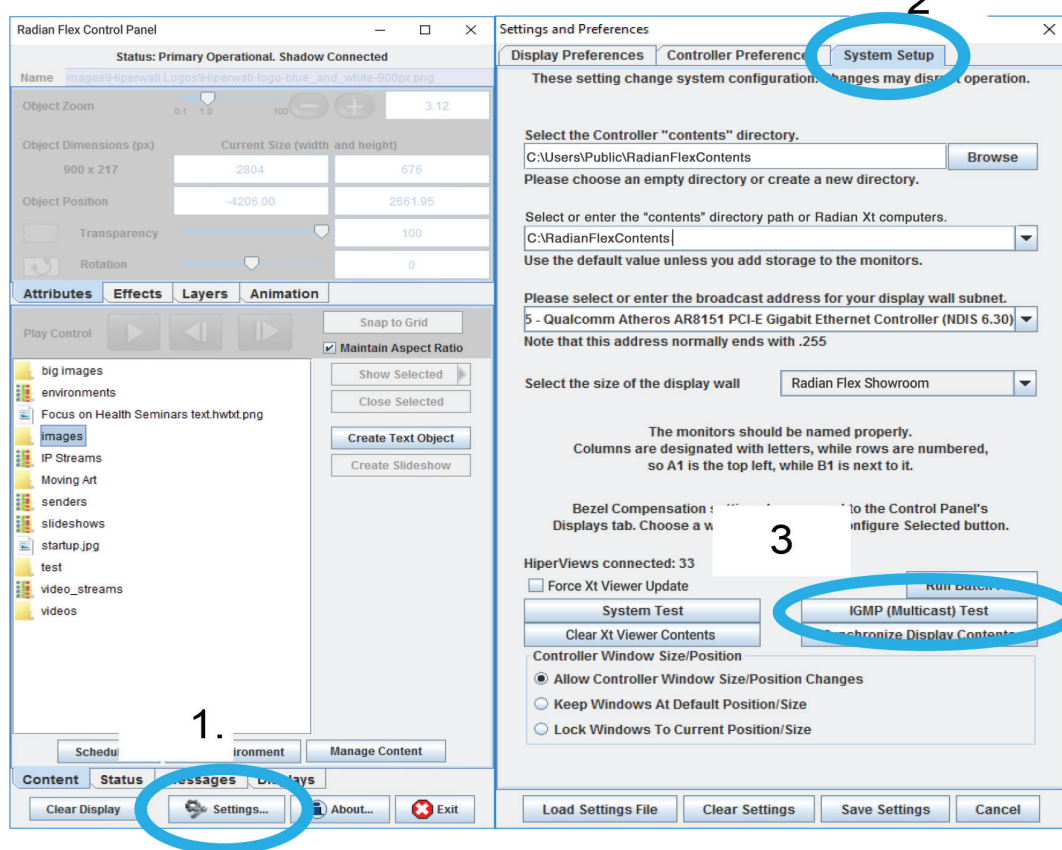

FIGURE 4-4. GO TO IGMP MULTICAST TEXT
2. Click on the IGMP Multicast Test button. See Figure 4-4 for how to go from the Control Panel to the IGMP Multicast Test. In the Control Panel, go to the bottom of the panel and click the Settings... button. This takes you to the Settings and Preferences window. Click the System Setup tab to get to the IGMP Multicast Test button.